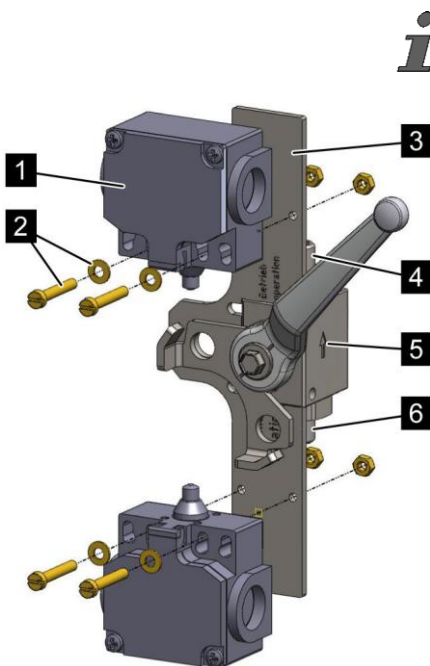

Fig. 112: Mounting the blocking device (optionally with 1 or 2 limit switches)
1. ➤ Optionally screw one or two limit switches (Fig. 112/1) onto the blocking device (Fig. 112/3) with the cylinder screws and washers (Fig. 112/2).
3. ➤ Bolt the blocking device with the provided cylinder screws, washers, and hex nuts on the holder in such a manner that the ready-to-operate position points in the flow direction (marked with an arrow, Fig. 112/5).
4. ➤ Bolt the pilot line with the cap nut to the two connections of the blocking device (Fig. 112/4+6).